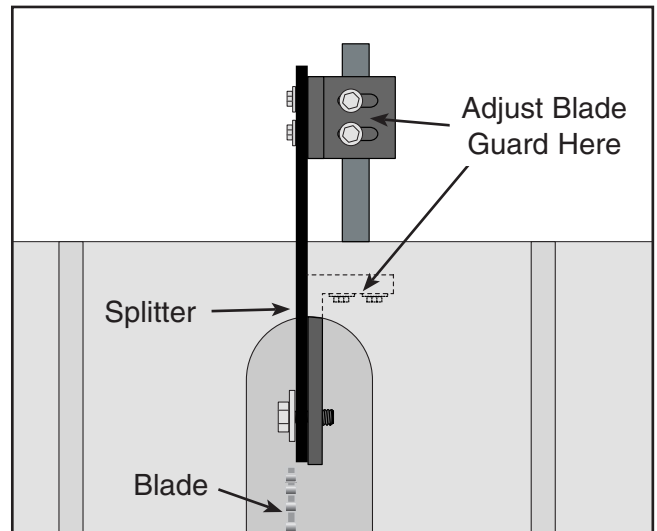
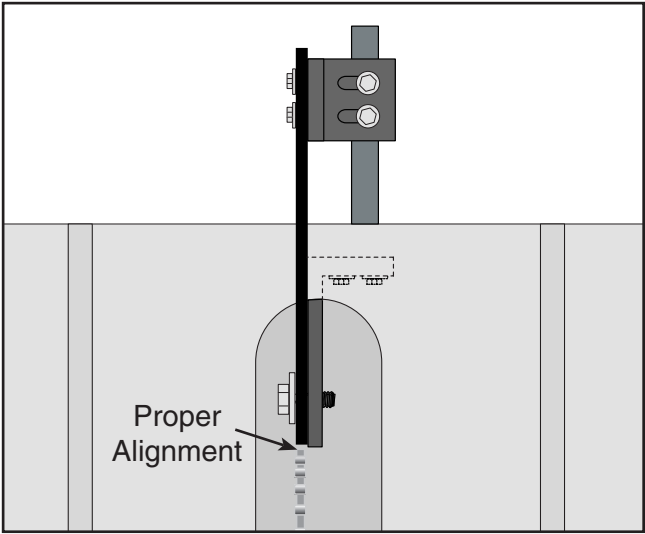

Figure 33. Incorrect blade guard alignment.
Figure 34. Correct blade guard alignment.
- If the blade guard is not aligned correctly behind the blade (**Figure 33**), then adjust the blade guard mounting bracket and the front blade guard support so they align correctly (**Figure 34**).